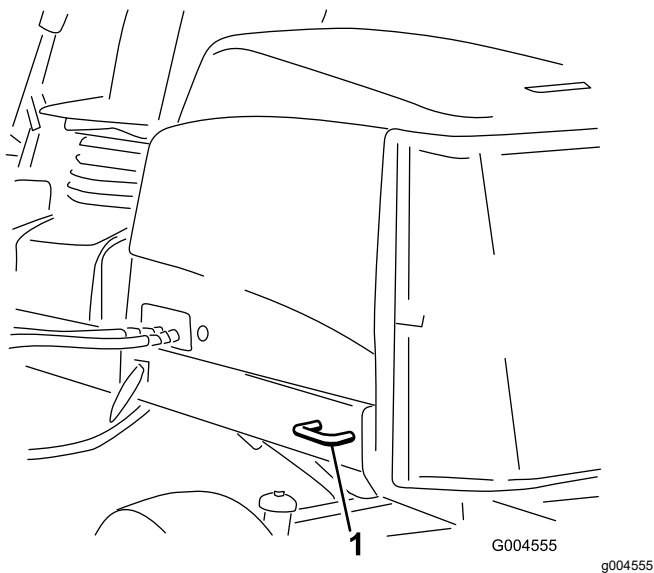

Figure 36
- **Rear of the machine**—each side of the machine on the rear frame (Figure 36).